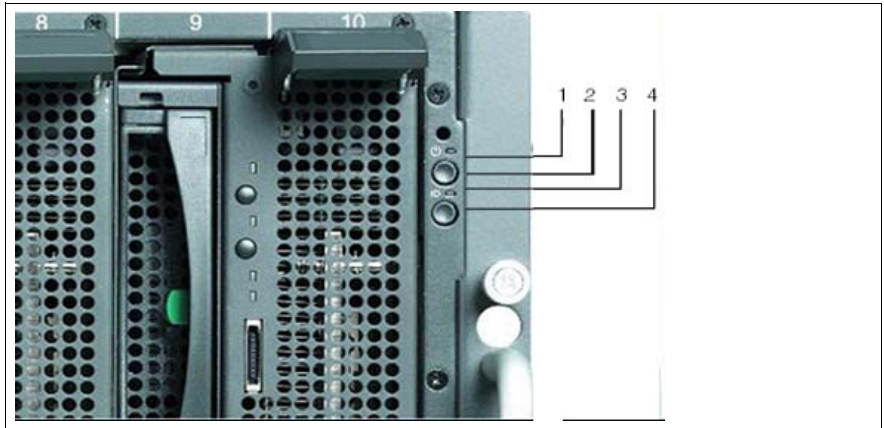

Figure 14: System operating and indicator elements on the front
- ▶ Press the basic unit power ON/OFF button (position 2 in figure 14 on page 50) for 2 seconds. Depending on the BIOS settings, the server blades can be switched on automatically one after another according to the slot numbering (see figure 28 on page 72).
- ▶ For **graceful shutdown** of all server blades, press the system power ON/OFF button (position 2 on figure 14 on page 50) for 4 seconds. The server blades will then be powered OFF.
- ▶ For **hard shutdown** of all server blades, press the system power ON/OFF button (position 2 on figure 14 on page 50) for 10 seconds. The server blades will be powered OFF immediately.